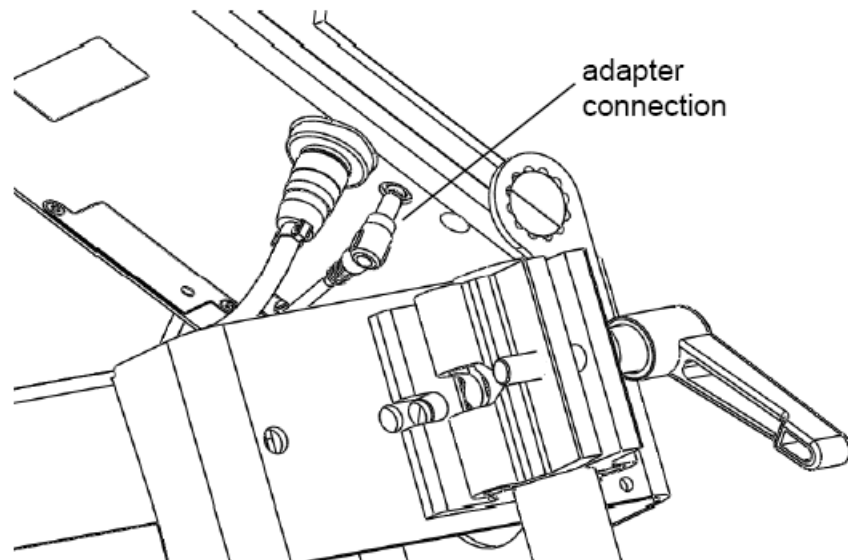

Figure 3-14: Adapter Connection
- b. Connect the male plug from the power supply adapter to the printer controller (refer Figure 3-14).